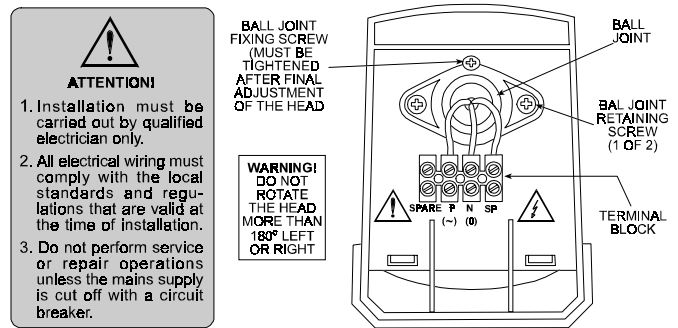

Figure 4. Head with Cover Removed
Only three terminal block connections are required. See Figures 4 and 5.
- Feed the wiring through the selected entryway, pass the wiring upward through the opening in the head, and connect the wires to the terminal block in the head (see Fig. 4 and 5).
- Slightly release the two ball joint retaining screws in the head (Fig. 4) and position the detector in the direction of the area to be covered.
- Check that all wiring and connections are correct. Refer to Figures 4 and 5.
- The neutral supply wire should be connected to the **N (0)** terminal of the GL and to the neutral input of the lighting device(s).